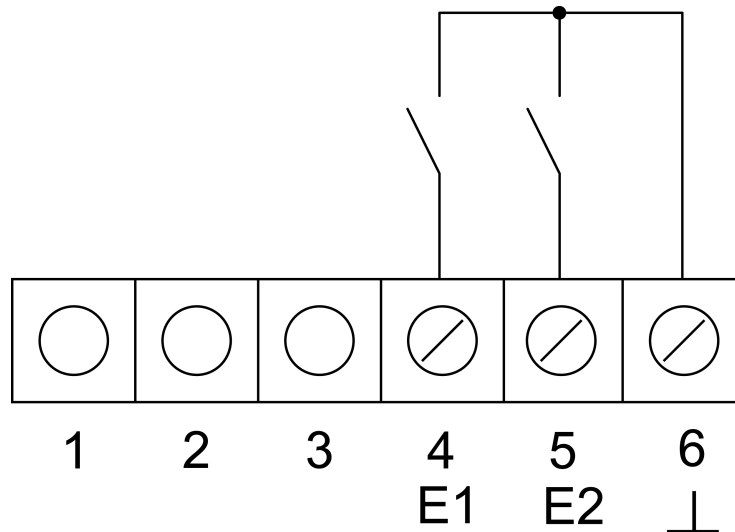

Figure 3: Connection of binary inputs
- Removing the cover (4).
- Isolate terminal insert (1) from electronic insert (3).
- Connect the bus line to the connection terminal (9) in the terminal insert.
- Binary inputs: Connect window contacts, NO contact or NC contact button to terminals 4, 5 and 6 of the connecting strip (8) (Figure 3).
- Insert terminal insert (1) in appliance box. Note label **OBEN / TOP**. The bus connection must be to the right and below.
- Fit the Design frame (2) on terminal insert (1).
- Insert the electronics cover (3) into the terminal insert in the correct orientation.